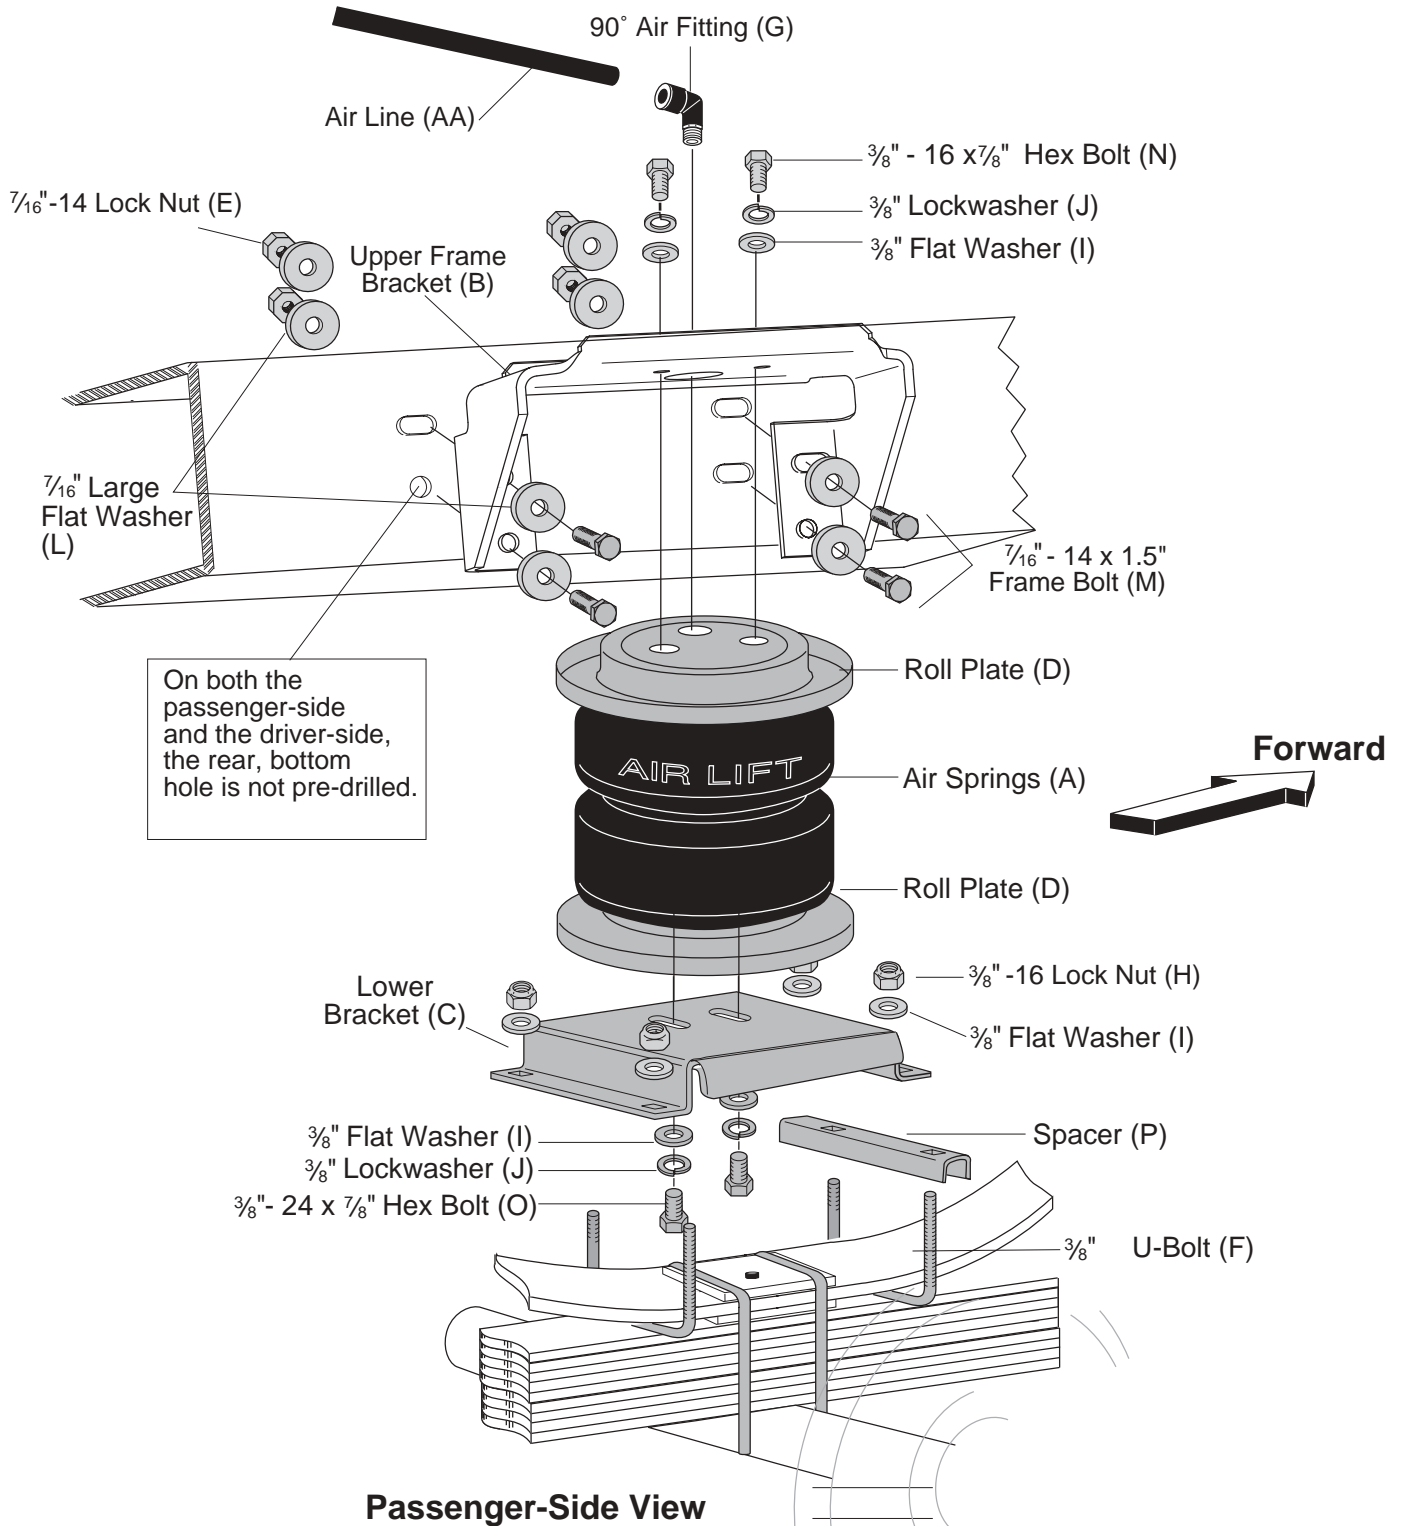
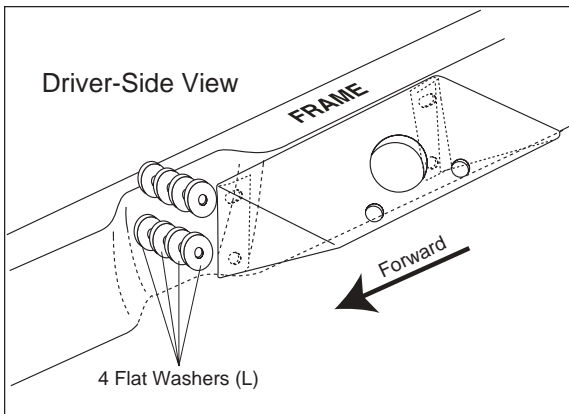

Figure 1
Figure 4
(* not shown in Figure 1)
1. Set a roll plate (D) on both ends of the air spring (A). The radiused (rounded) edge of the roll plate will be towards the air spring so that the air spring is seated in both roll plates (Figure 1).
2. Install a 90° swivel air fitting (G) finger tight plus 1½" turns (Figure 1). Use a 9/16" open end wrench, being careful to tighten on the metal hex nut only. *Do not overtighten.* This fitting is precoated with sealant.
3. Place the upper bracket (B) onto the top of the bellows and roll plate with the legs facing down. Guide the swivel fitting through the large hole in the center (Figure 1).
4. Place the lower bracket (C) on the air spring so that the flat edge of the lower bracket mounts toward the legs of the upper bracket (inboard). See Figure 1.
5. Attach the upper bracket to the assembly using 3/8" flat washers (I), lock washers (J), and hex head bolts (N). Remember that the legs face down (Figure 1). Tighten securely.
6. Loosely attach the lower bracket to the bellows using 3/8" flat washers (I), lock washers (J), and hex head bolts (O) (Figure 1).
1. Set the air spring assembly on the leaf spring over the axle (Figure 1).
1. Place the short U-bolts (F) under the frame contact overload springs with the threads facing up (Figure 1).
2. Place the spacer (P), legs down, on the front leg of the lower bracket between the frame contact overload and the lower bracket (Figure 1).
3. Attach the lower bracket to the frame contact overload using $\frac{3}{8}$ " flat washers (I) and $\frac{3}{8}$ " lock nuts (H) (Figure 1).
2. Using the bottom, rear hole of the upper bracket as a template, center punch and drill one $\frac{7}{16}$ " hole through the frame (Figure 1).
4. Attach the upper bracket using $\frac{7}{16}$ " frame bolts (M), $\frac{7}{16}$ " large flatwashers (L), and $\frac{7}{16}$ " lock nuts (E).
NOTE FOR DRIVER-SIDE ONLY: There is an indent in the frame for the shock bracket. When installing the upper bracket, it will be necessary to add four $\frac{7}{16}$ " flat washers (L) on the top and bottom bolts between the frame and the bracket to properly mount the upper bracket. Fastening hardware is the same as listed in the previous step with the addition of the flat washers (L) (Figure 4).